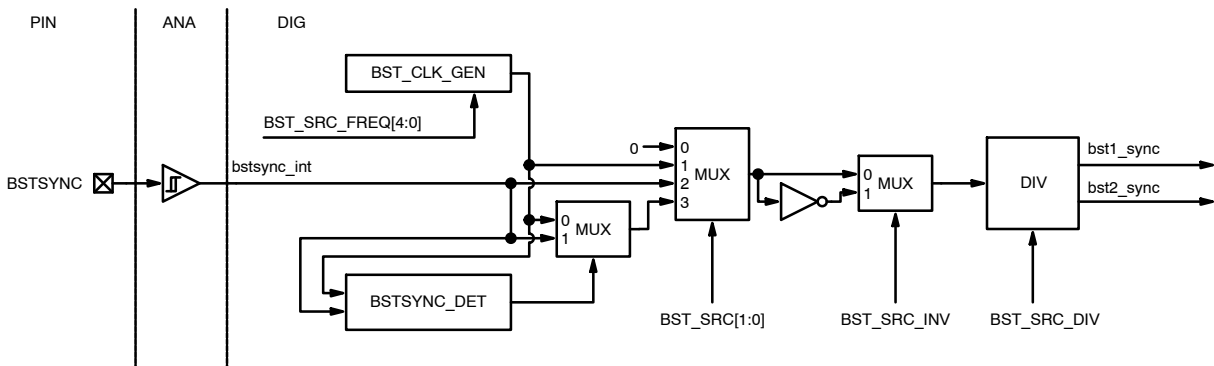
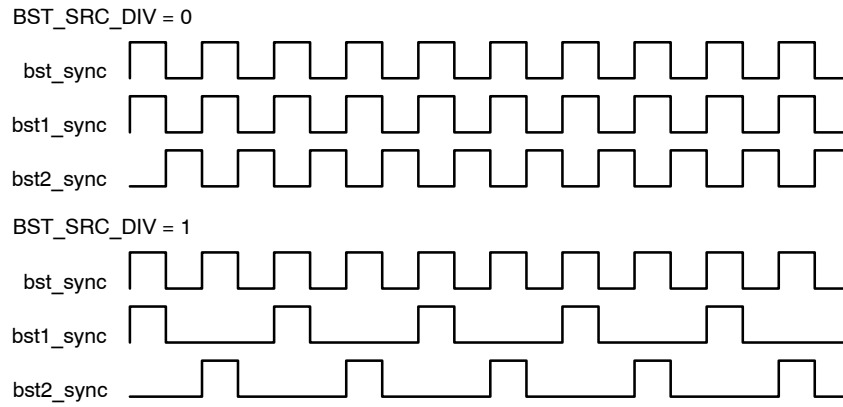

Figure 17. NCV78902 Booster Frequency Generation Block
Figure 18. PWM Generator Clock Divider
When register BST_SRC = 3, the automatic booster PWM clock selection is activated. Switch sequence to internal clock is initialized when no rising edge on external source (bstsync_int on Figure 17) is detected within 3 consecutive rising edges of internal bst_sync clock. For this purpose, internal clock should be set to similar frequency as external source to ensure smooth transitions. Switch sequence to external clock is initialized when rising edge on external source (bstsync_int) is detected.
2. To synchronize the MOSFET gate PWM clock and needed phase shifts, the boosters must use the external clock generation (BSTSYNC), generated by the board MCU or external logic, according to the user-defined control strategy. The generic number of lines needed is equivalent to the number of devices. When two chips are combined, the slave device shall have BST_SRC_INV bit at '1' (clock polarity internal inversion active), whereas the master device will keep the BST_SRC_INV bit at '0' (= no inversion, default). On top of that, to get four phases with phase shift, the BST_SRC_DIV bit has to be at '1', meaning that gate clock is divided by two (please see Figure 17 and Figure 18 for more details).